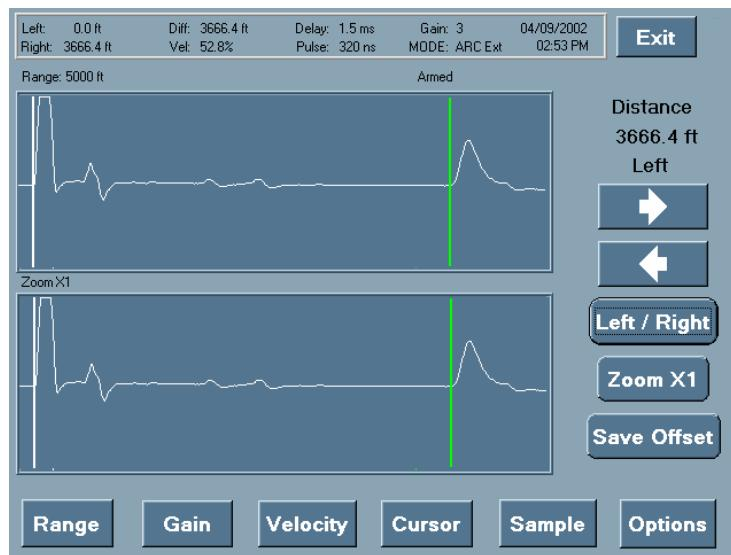

Figure 6-36 Left Cursor Adjustment screen
3. Press **Cursor** and then **Left / Right** to activate the left cursor (Figure 6-36). Press  to move the cursor to the left and  to move the cursor to the right. Locate the test cable end by momentarily touching the ends of the leads together and observing the open-end reflection changing from upward to downward. Position the left cursor at the end of the test leads at the very start of the downward pulse as the lead ends are shorted.